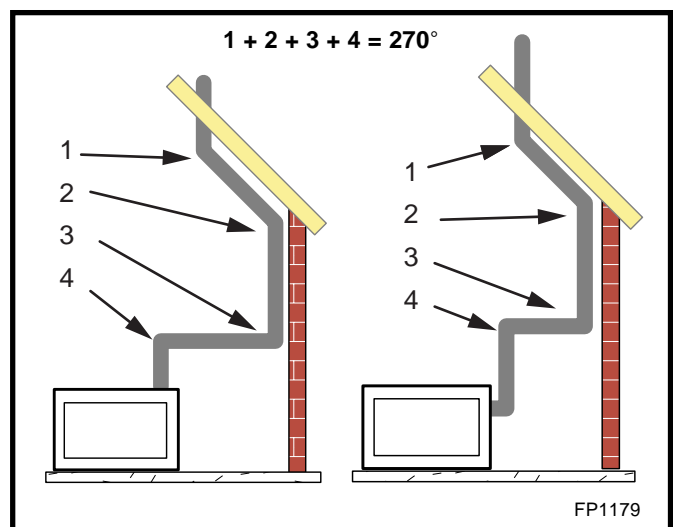

Fig. 36 Maximum elbow usage.
- Two sets of 45° elbow offsets may be used within the vertical sections. From 0 to a maximum of 8' (2.5m) of vent pipe can be used between elbows. (Fig. 36)
- The maximum angular variation allowed in the system is 270°. (Fig. 36)